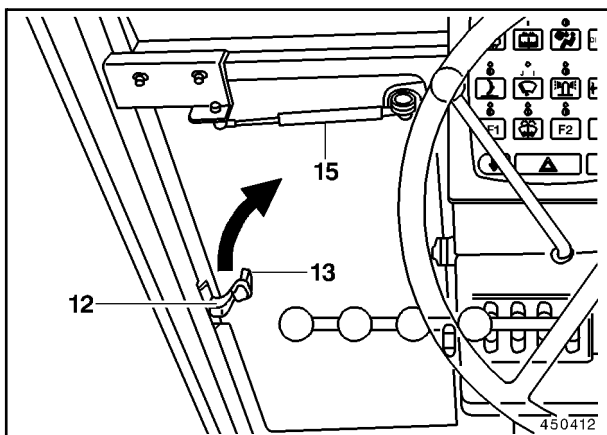

Fig. 6
The two front hinged windows (Fig. 6) permit a good view of the blade. They also allow optimal ventilation of the driver's cab.
The windows are locked and unlocked by means of the lock-bar (12, Fig. 6) and knurled knob (13).